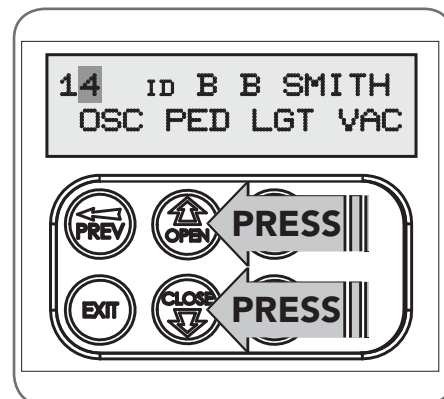

Fig G.3
- Press the UP or DOWN arrows to navigate through the list (**Fig. G.3**).